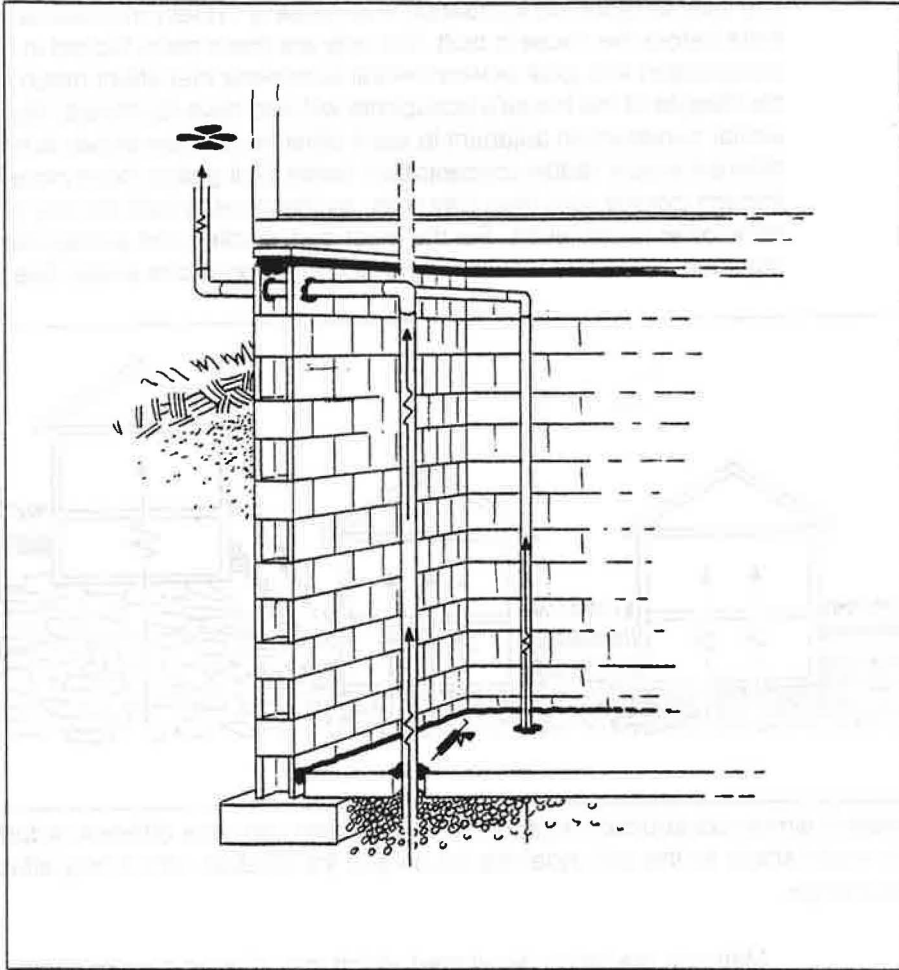

Fig. 15. A sub-slab ventilation system.
- Draw soil gas and radon out from that space and away from the house. This has proved to be one of the most effective and efficient means of radon control for new and existing houses. See fig. 15 for how the system works.